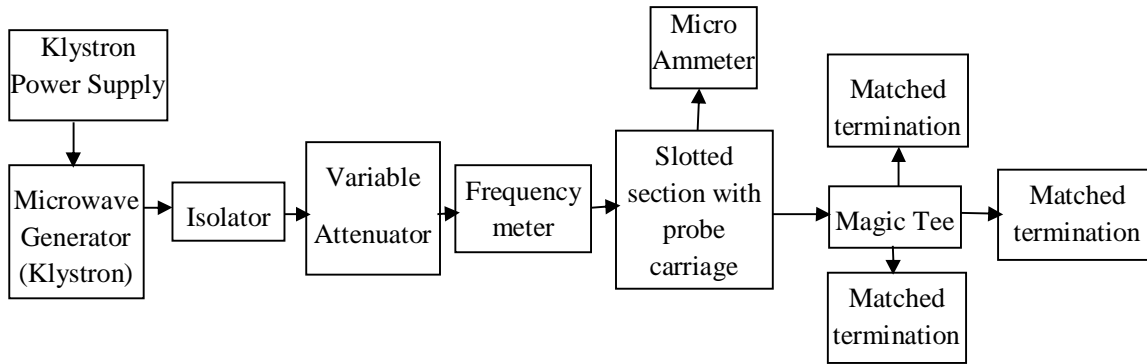

Fig .9.2 Experimental setup of study of Magic Tee (Reflection Coefficients)
13. Assemble the set up as shown in figure 9.2 with port 1 connected to slotted section. Observe the standing wave pattern on the slotted line and note down I_{\max} and I_{\min} . Calculate the